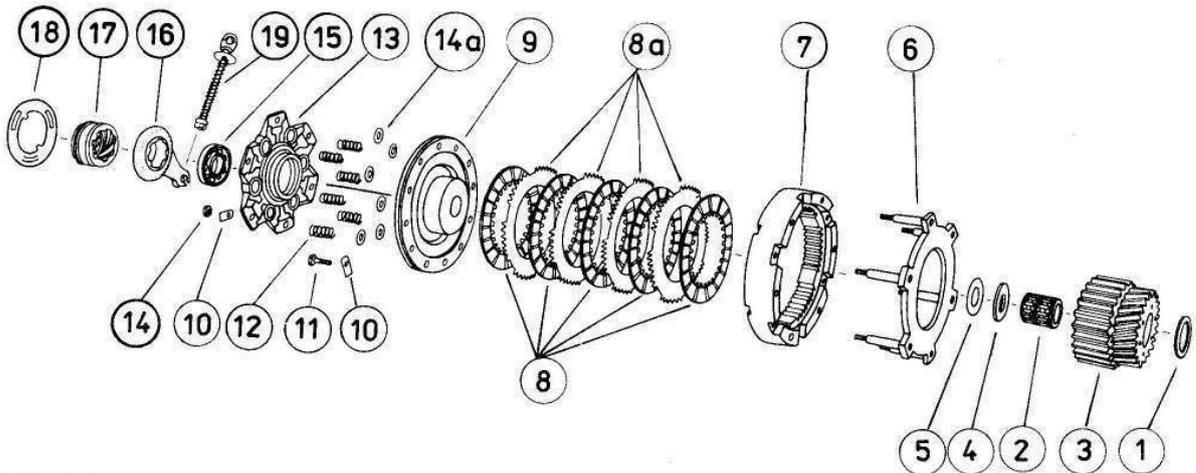

Fig. 21
Screw the clutch puller (1) fully on the thread of the clutch (2). The spindle (3) with compression member presses the clutch from the cone of the crankshaft. Pull the clutch from the internal driver. Remove corrugated washer (5) and thrust washer (4), remove drive gear with internal driver (3) and needle bearing (?) and spacer (1) from the crankshaft (see Fig. 21).
For dismantling and assembling the clutch, the internal driver with drive gear (3) must be plugged on the assembly device. By turning the lock nut (4) clockwise, the clutch flange is relaxed and the nuts (WoF 10) (5) can be loosened and removed with lock plates. After removing the lock nut (4), the clutch can be dismantled into its individual parts (Fig. 21). Checking for wear is dealt with in Section 3.4.1.